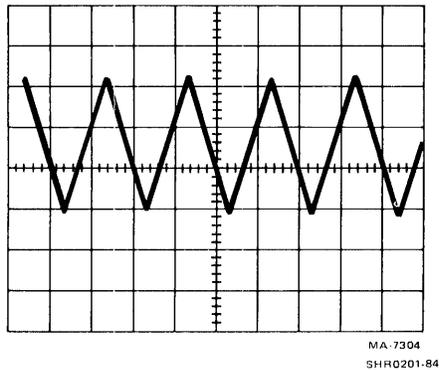

Figure 5-15 Normal Read Head Output While Reading
- e. Place MIA switch S1 to the forward (right) position. The waveform on the scope should be sinusoidal, similar to that shown in Figure 5-15.